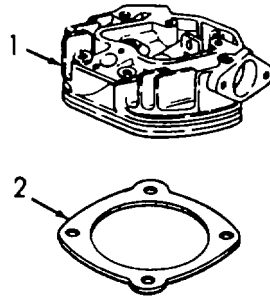

Figure 5-19. Cylinder Head Removal.
- (8) Refer to figure 5-19 and remove cylinder head (1) and gasket (2). Discard gasket.
- (6) Install pushrods (2 and 1).
- (7) Install new gasket (2, figure 5-19) and cylinder head (1) onto cylinder.